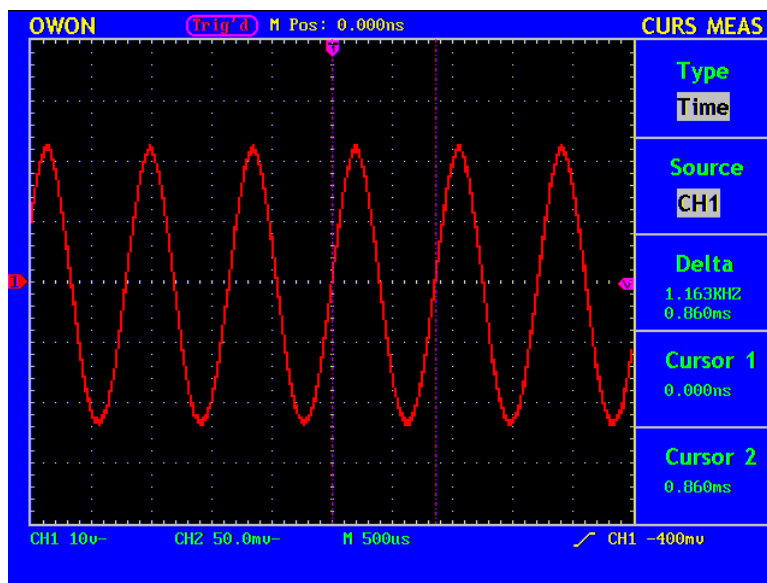

**Fig.52** Voltage Cursor Measurements
- Press **F2** to select **CH1** as the **Source**. The results are shown on the screen. (see Fig.52)